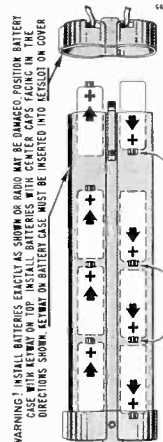

Figure 3. Battery Case, Showing Correct Method for Installing Batteries.
**IMPORTANT:** When installing batteries refer to figure 3, or the diagram on the battery case, to make sure the batteries are being installed in the case properly. When installing cap on case, check the diagram again to make sure the cap is not reversed.